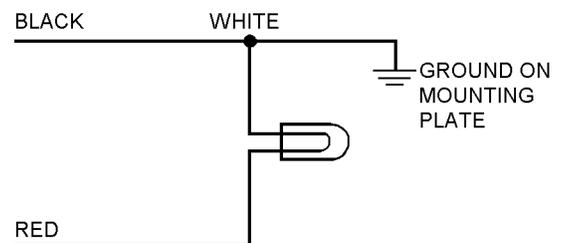

Figure 14-4. Wiring Diagram
1. Make certain lamp (18, figure 14-12) is wired in accordance with figure 14-4.